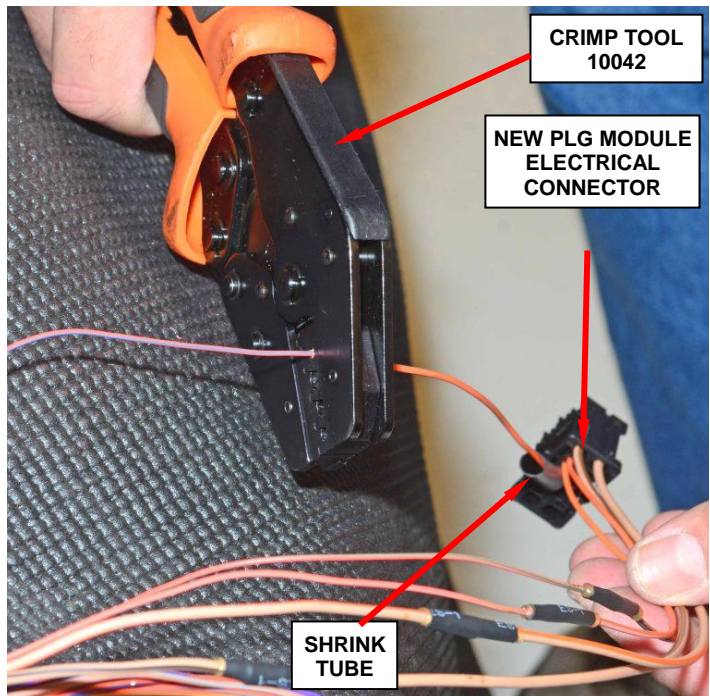

Figure 11 – Install Brass Crimp
- d. Using a brass splice band and crimp tool 10042, crimp the wire harness side wire to the matching color wire on the new connector pigtail (Figure 11).